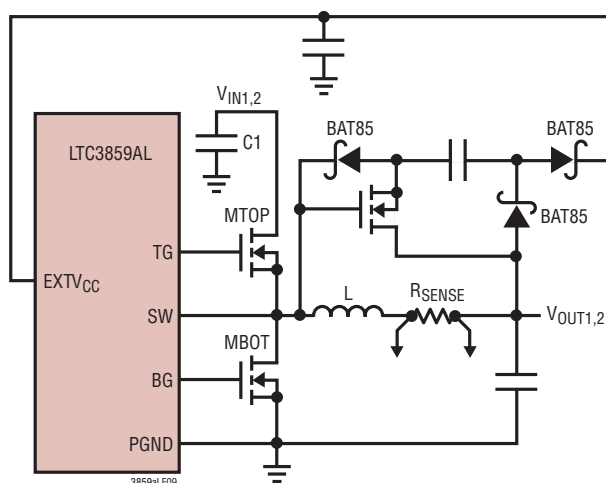

Figure 9. Capacitive Charge Pump for  $EXTV_{CC}$
4.  $EXTV_{CC}$  connected to an output-derived boost network off one of the buck regulators. For 3.3V and other low voltage buck regulators, efficiency gains can still be realized by connecting  $EXTV_{CC}$  to an output-derived voltage that has been boosted to greater than 4.7V. This can be done with the capacitive charge pump shown in Figure 9. Ensure that  $EXTV_{CC} \leq V_{BIAS}$ .